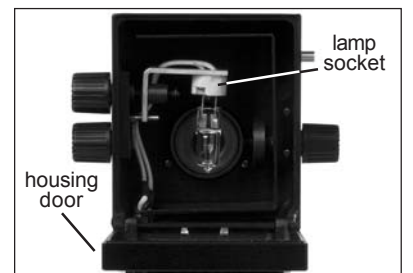

Figure 59
1. Open the lamp housing door located at the rear of the reflected illuminator box by pulling downward (figure 59).